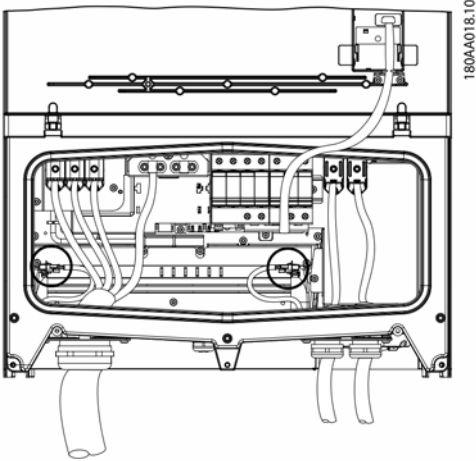
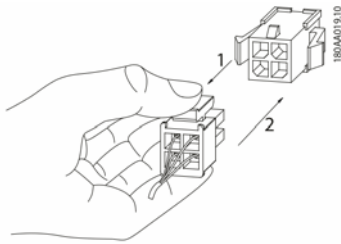

Figure 1.1
Figure 1.2
3. Loosen the two black cables which supply the fan with current: one cable is on the right outside, the other on the left outside. Figure 1.1 shows the position of the cables and (1) in figure 1.2 shows how the connector of the black cables is removed.
3. Make sure the two plugs of both cables snap into place. See figure 1.1 and (2) in figure 1.2.